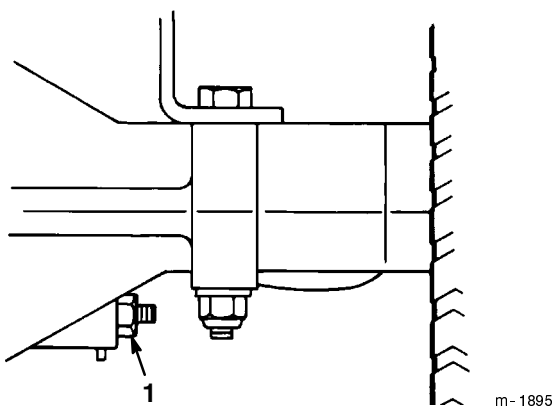

Figure 18
The brake is on the right side of the rear axle, inside the rear tire (Fig. 18). If the brake does not hold securely or stopping power is insufficient, an adjustment is required.
2. To increase braking resistance, tighten the brake adjusting nut (Fig. 18) 1/8 turn clockwise; then check the brake again. Continue this adjusting and checking process until the brake is set properly.